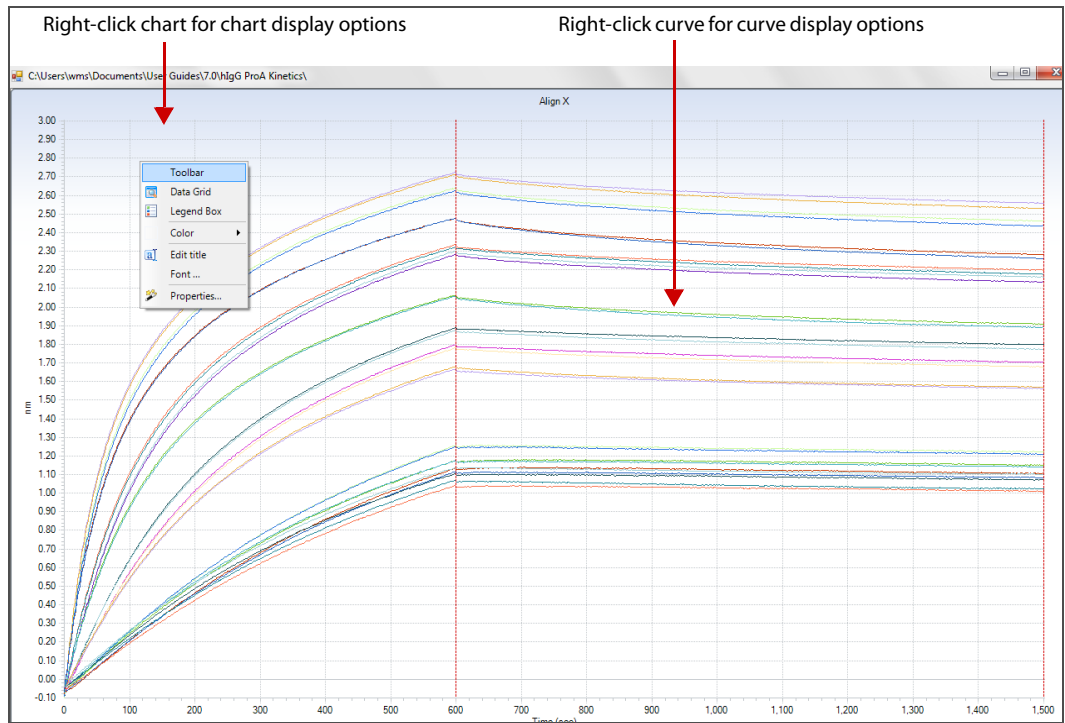

Figure 5-30: Binding Chart—including Toolbar and Data Grid
- Customize the graph by right-clicking the graph for a shortcut menu of display options (Figure 5-30).
- Customize the curve display, right-click the curve for a shortcut menu of display options (Figure 5-30).